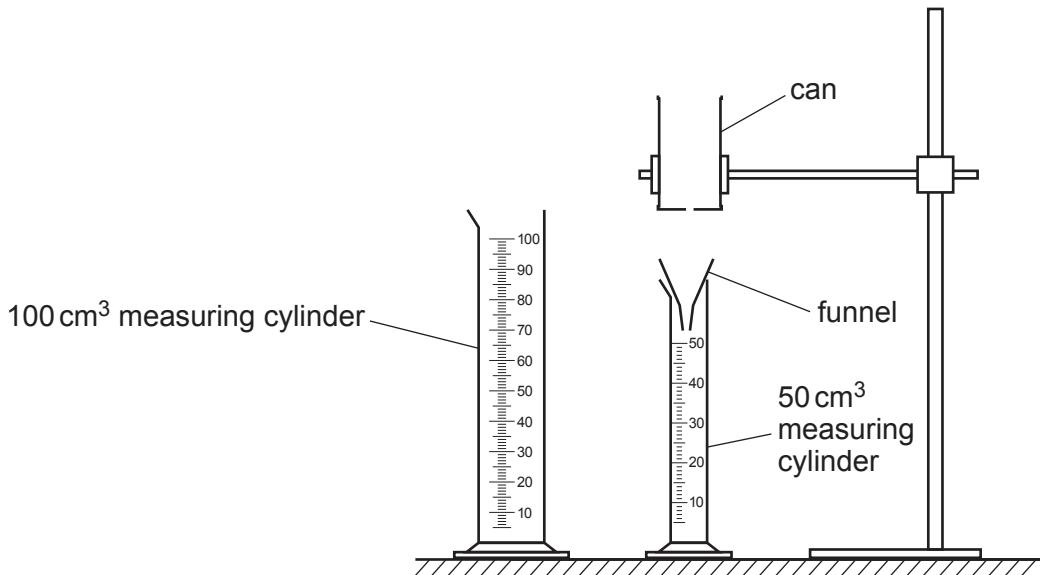

Fig. 3.1
2. The apparatus should be set up ready for each candidate as shown in Fig. 3.1, with the  $100\text{ cm}^3$  measuring cylinder and the beaker labelled 'supply of water' placed at one side of the apparatus.
The supervisor should ensure that the apparatus is set up for each candidate as shown in Fig. 3.1, with the 100 cm3 measuring cylinder and beaker labelled ‘supply of water’ placed at one side of the apparatus. The measuring cylinders should be empty, and the water in the beaker labelled ‘supply of water’ topped up to 200 cm3.